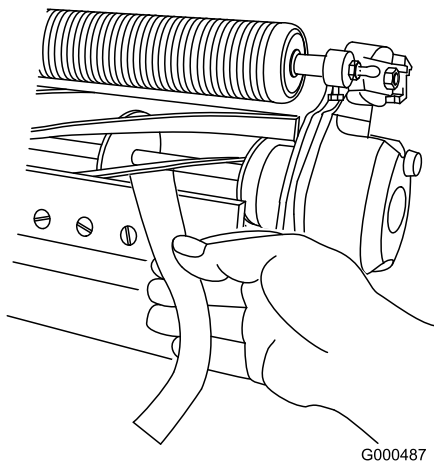

Figure 5
2. Bedbar-adjusting-screw nut (2)
- B. Insert a long strip of cutting performance paper between the reel and bedknife, perpendicular to the bedknife (Figure 5), then **slowly** rotate the reel forward; it should cut the paper; if not, repeat steps A and B until it does.
11. Insert a long strip of cutting performance paper between the reel and bedknife, perpendicular to the bedknife (Figure 5), then **slowly** rotate the reel forward; it should cut the paper; if not, turn each bedbar adjusting bolt clockwise 1 click and repeat this step until it cuts the paper.